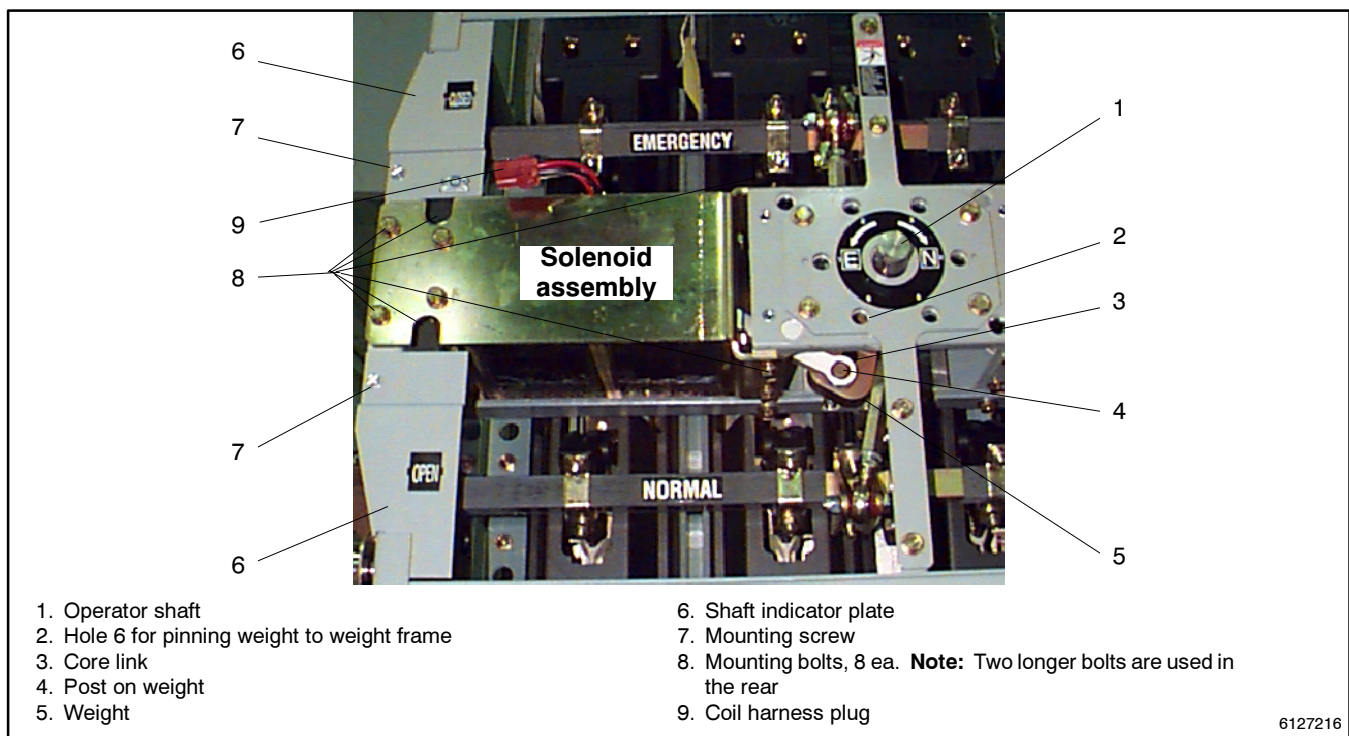

Figure 11-23 Location of the Solenoid Assembly and Related Parts in the Drawn-Out (Removed) Transfer Switch
The solenoid assembly is located in the left front of the transfer switch. See Figure 11-23.
2. Manually operate the switch to the EMERGENCY position. After the transfer switch is pulled out completely, use the maintenance handle (Figure 11-2) to turn the weight so that the core link is down, as shown in Figure 11-23 (Normal contacts are in the *OPEN* position). Refer to *Section 2* of the *operation manual*.